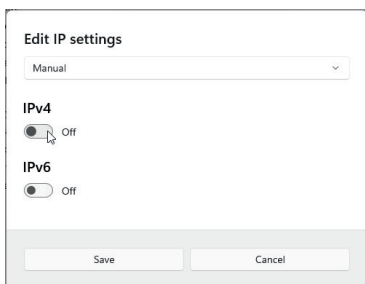

Fig. 5-9: Windows 11, **Edit IP Settings** dialog, IP options
- ☞ Next, enable the required internet protocol (IPv4 or IPv6) (Fig. 5-9).